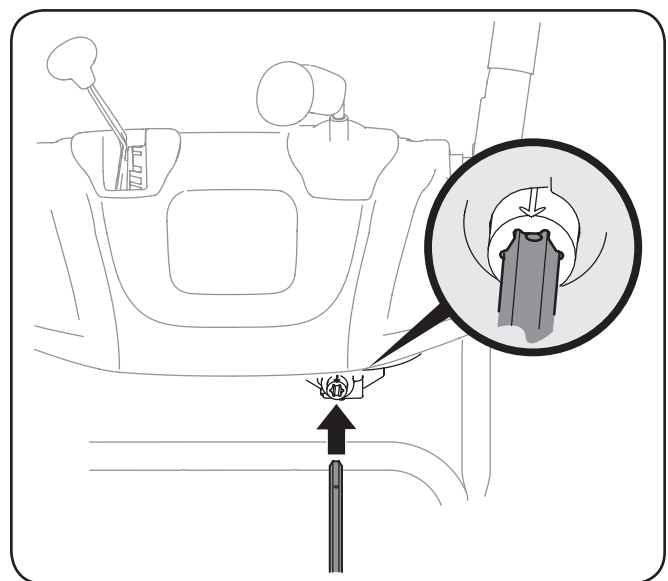

Figure 3-7
7. Insert the hex rod into the pinion gear below the joystick. Make sure to line up the hole in the hex rod with the arrow on the pinion gear. See Fig. 3-7.